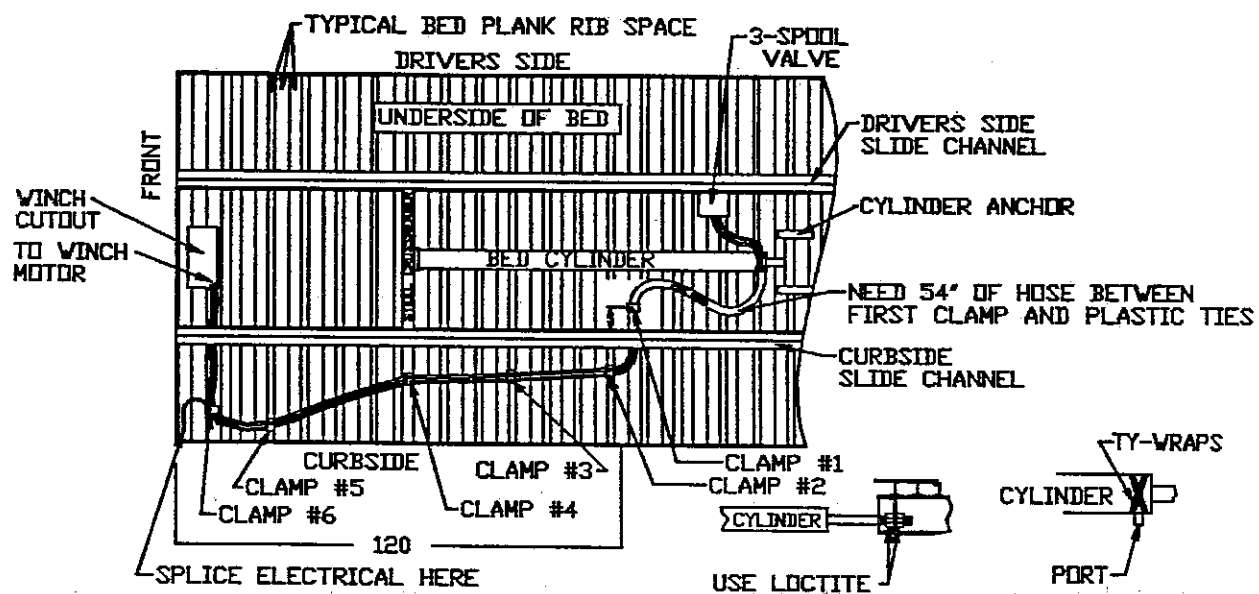
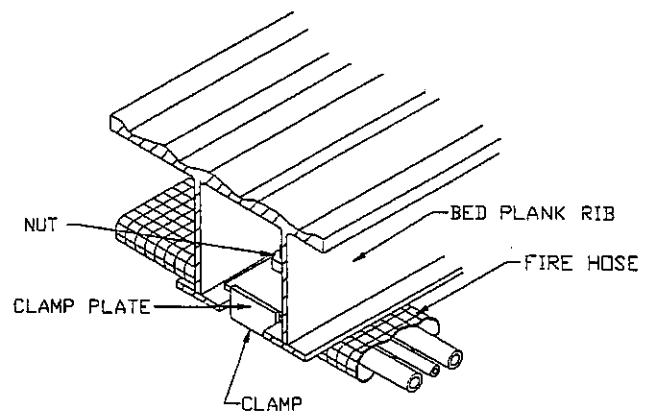

FIG. 4-46 FIRE HOSE INSTALLATION
FIG. 4-48 SECURING THE HOSES AND LINES
**4-12.4** Secure fire hose to the long cylinder by inserting 2 long ty-wraps through the hole punched in the fire hose. Wrap the ty-wraps around the long cylinder on each side of the cylinders rear fitting. (See FIG. 4-46, next page) Two long ty-wraps may need to be connected end to end to make one long enough.
4-12.14 Thread the hydraulic and electrical lines with fire hose, between floor ribs and over the bed slide channel at the mark located in the previous step. Pull through until the clamp on the fire hose is 5" from the slide channel. (See FIG. 4-46) Secure to the bed at this location. The flat plate of the clamp inserts between the floor ribs. Secure U-plate encasing the fire hose to the flat plate using clamp bolt and lock nut. (See FIG. 4-48) DO NOT pinch hydraulic hoses, or electrical cable between the mating surfaces of the clamp halves.
4-12.16 Route the hoses and cord to the front right corner of the bed. (See FIG. 4-46) Use five clamps spaced evenly to secure the hoses and cable to the bed underside similar to FIG. 4-46.
4-12.17 Route the two hydraulic hoses back over the slide channel at an opening even with the front edge of the winch cut-out in the bed floor. (See FIG. 4-46)